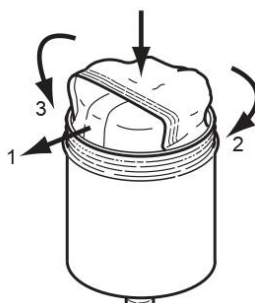

Figure 2.
- \* Put it into the case by pushing it while pulling the seam(1) to puff out the pack and fold the both top corners (2) and (3) of the pack outside (Figure 2).